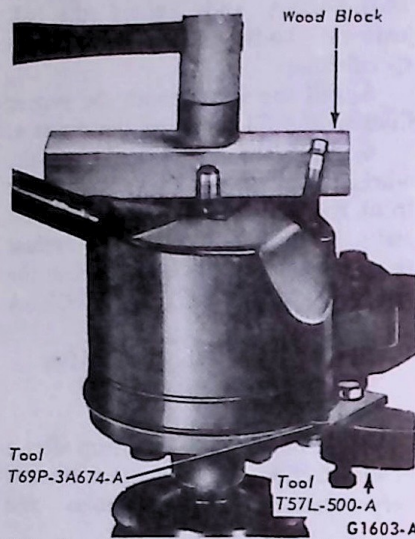

FIG. 9 Installing Reservoir on Pump
4. Install the reservoir on the pump and O-ring seal with a plastic or rubber hammer and a block of wood as shown in Fig. 9. Tap at the rear of the reservoir and on the outer edges only.